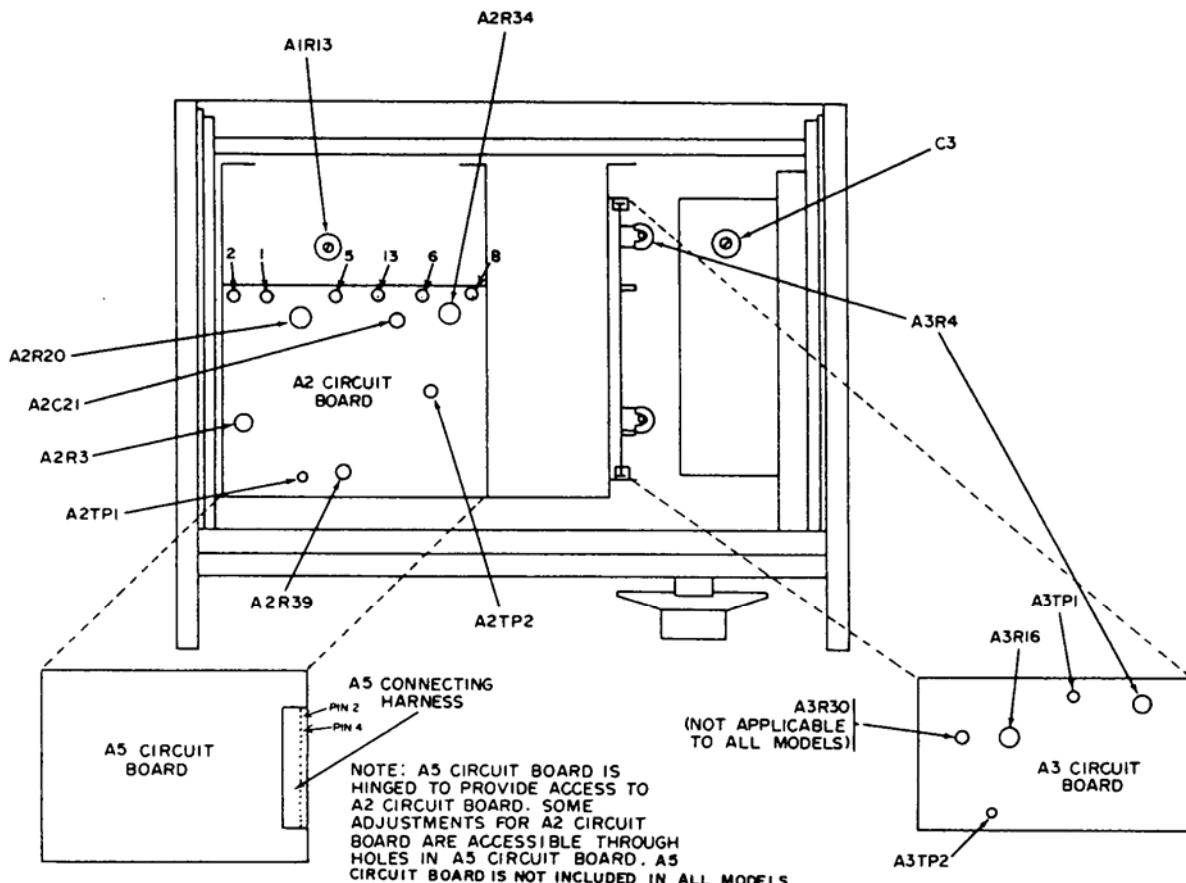
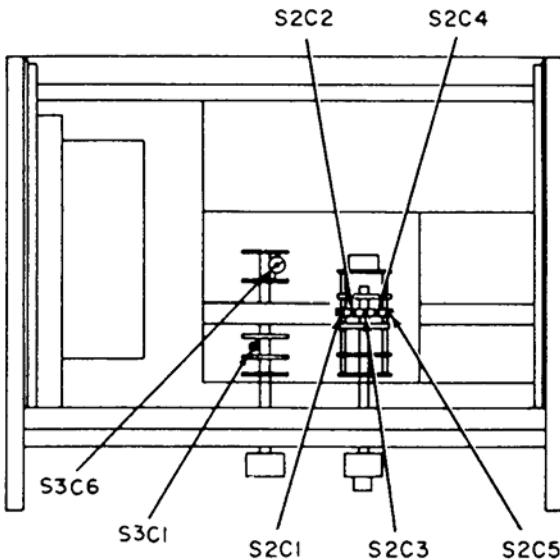

Figure 1. Distortion analyzer - top view.
Figure 2. Distortion analyzer - bottom view.
- (2) Adjust A2R34 (fig. 1) for 0.001 V indication on TI voltmeter (R).
(1) Set **METER RANGE** switch to **.01 VOLTS**.
(2) Adjust calibrator frequency to 1 kHz and amplitude for a 0.01 V indication on TI meter. Set the reference level on calibrator by pressing the **NEW REF** key.
(3) Adjust calibrator frequency to 2 MHz and output amplitude for 0.0% error display reading.
(4) Adjust A2R39 (fig. 1) for a 0.01 V indication on TI meter (R).
(5) Adjust calibrator frequency to 3 MHz and output amplitude for 0.0% error display reading.
(6) Adjust A2C21 (fig. 1) for a 0.01 V indication on TI meter (R).
(7) Repeat (3) through (6) above as necessary to correct for any interaction between adjustments.
(8) Set **METER RANGE** switch to **.3 VOLTS**.
(9) Adjust calibrator frequency to 1 kHz and amplitude control for a 0.3 V indication on TI meter. Set the reference level on calibrator by pressing the **NEW REF** key.
(10) Adjust calibrator frequency to 2.5 MHz and amplitude for 0.0% error display reading.
(11) Adjust S3C6 (fig. 2) for a 0.3 V indication on TI meter (R).
(12) Set **METER RANGE** switch to **3 VOLTS**.
(13) Adjust calibrator frequency to 1 kHz and amplitude control for a 3 V indication on TI meter. Set the reference level on calibrator by pressing the **NEW REF** key.
(14) Adjust calibrator frequency to 200 kHz and output amplitude for 0.0% error display reading.
(15) Adjust S3C1 (fig. 2) for a 3 V indication on TI meter (R).